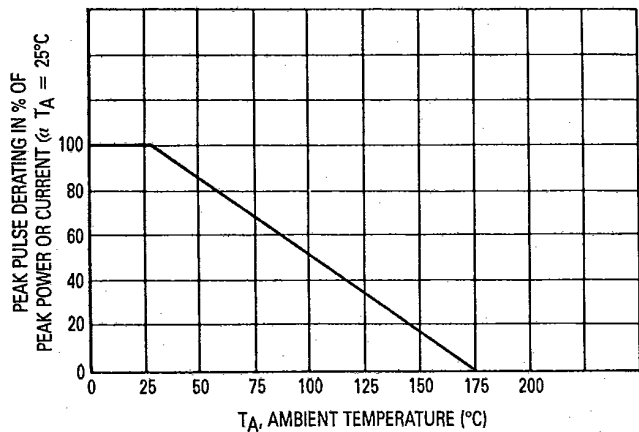

Figure 2. Pulse Derating Curve
- Ipp** Peak Pulse Current — See Figure 2